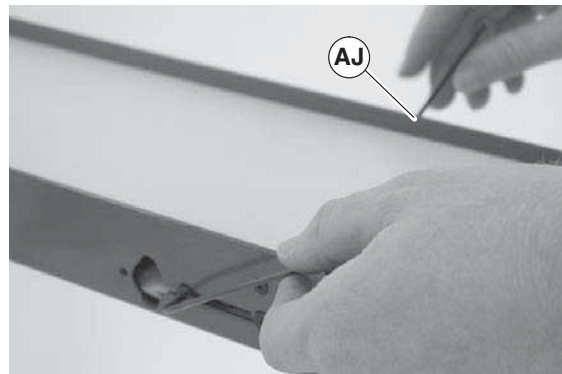
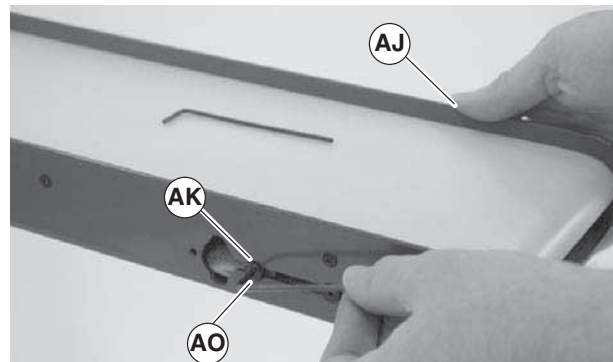

Figure 18
Figure 19
2. Using two (2) hex key wrenches, loosen but do not remove screw (Figure 18, item AJ). Back the screw out approximately 3/16".
3. Push on loose screw (Figure 18, item AJ) to engage shaft flats with conveyor countersink holes (AO) on slot. Loosen other screw (Figure 19, item AK).